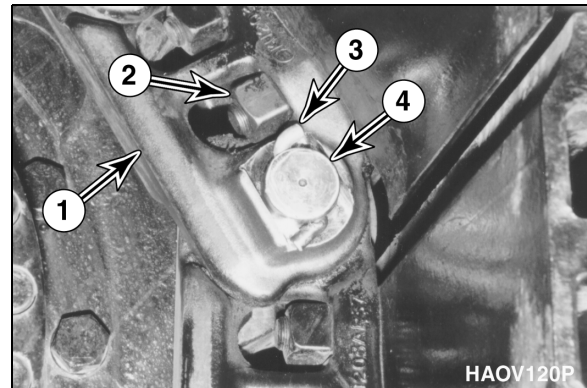

Figure 13
3. Move machine until master link (1, Figure 13) is positioned at approximately 10 o'clock from top position on travel reduction gearbox.
4. Remove four nuts and bolts (2, Figure 13) holding shoe to link. Remove enough shoes to make access to lock pin easier.
NOTE: *Support track shoes with blocking so that when master pin (4, Figure 13) is removed track will not fall.*
5. Straighten lock pin (3, Figure 13) and remove it from master pin (4). Discard lock pin.